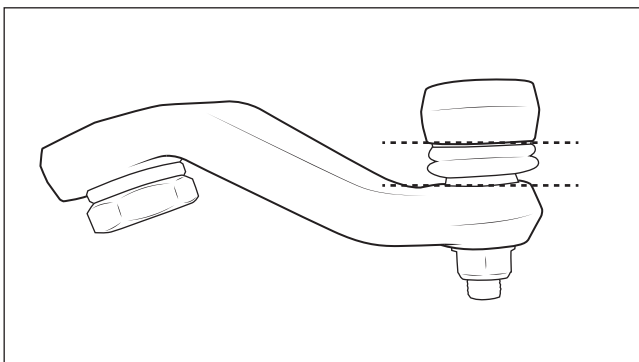
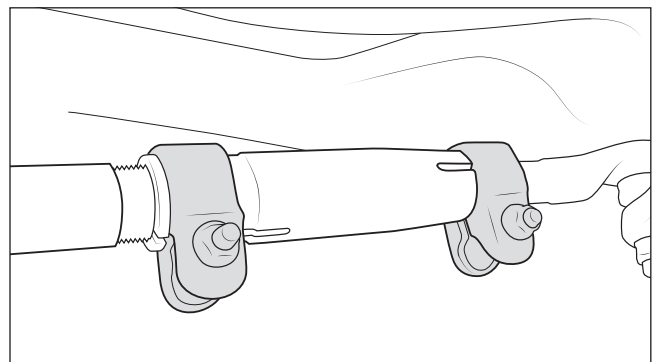

Figure 35
Figure 36
- d. Re-check length measurement and adjust as needed. **Make sure tie rod end at pitman arm is clocked parallel to pitman arm surface. Not doing so will cause bind and potential damage during steering and suspension movement** (fig. 35). Tighten both adjuster clamps to **40 ft-lbs** (fig. 36).